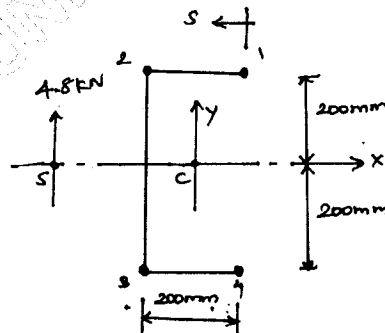

Fig Q4(a)
- 4 a. Calculate the shear flow distribution in the channel section, shown in Fig Q4(a) produced by a vertical load of 4.8kN acting through its shear center. Assume that the walls of the section are effective in resisting only shear stresses, while the booms, each of area 300mm2, carry all the direct stress. (08 Marks)